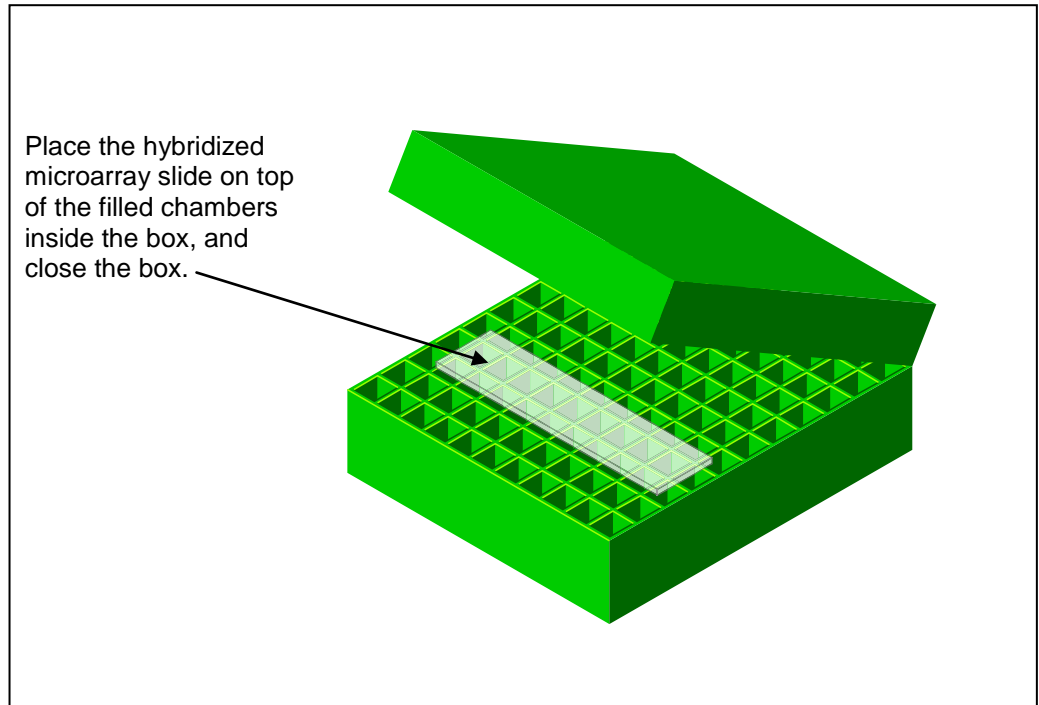

Figure 2: Step 4Bc → aRNA Hybridization—Glass Slide Inside Chamber Box²
- ii. Use the applicator stick provided to press along the adhesive areas to ensure a secure seal. Visually inspect the seal from underneath the microarray; inconsistent patterns in the black adhesive may indicate an insecure seal. Re-use the applicator stick if needed (Figure 2)
- 11) Place the entire labeled target plus the microarray set-up into a closable, chambered box* that is humidified by 2X SSPE buffer in the **50°C** oven for 14 to 16 hours. A sealed chamber ensures that the appropriate humidity level is maintained during incubation. (See Figure 2).
Figure 2, below, provides an illustration of Step 4Bc, where the hybridization protocol is completed using the glass cover slide method, and specifically, the OneArray[®] DNA Microarray is placed into the chambered box.